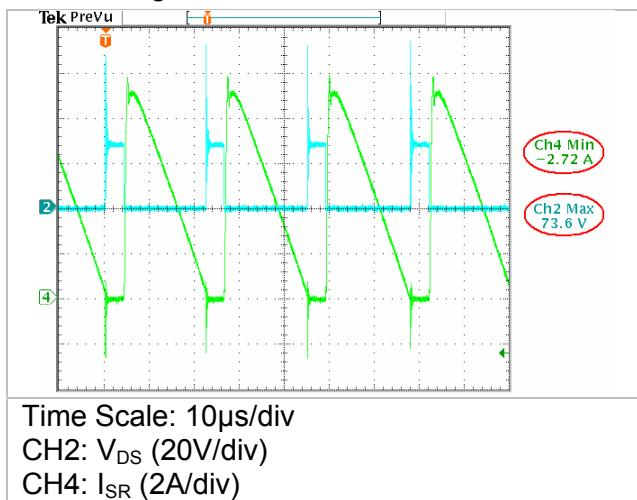
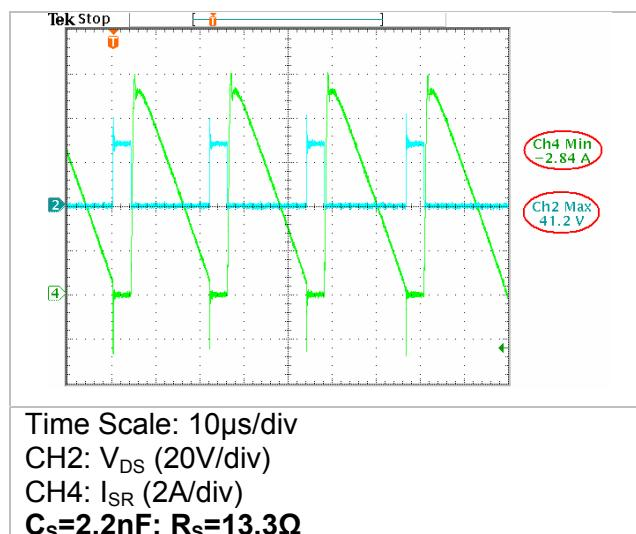

Figure 16 — Maximum Voltage Spike during Start-Up at High Line Input
Figure 17 — Maximum Voltage Spike during Start-Up at High Line Input with RC Snubber
Figure 16 shows the bench test result of the maximum voltage spike and reverse current (I_{rr}) during system start up at high-line input without RC snubber applied. Also based on the specification of this 20W Flyback converter, we can get:
From (14), R_S can be calculated which is $\sim 13.3\Omega$. So connect the RC snubber network as $C_S=2.2nF$ & $R_S=13.3\Omega$, the maximum voltage spike on SR FET during system start-up at high line input is showed in figure 17, we can find over 30V voltage spike is damped by the RC snubber compared with in figure 16.